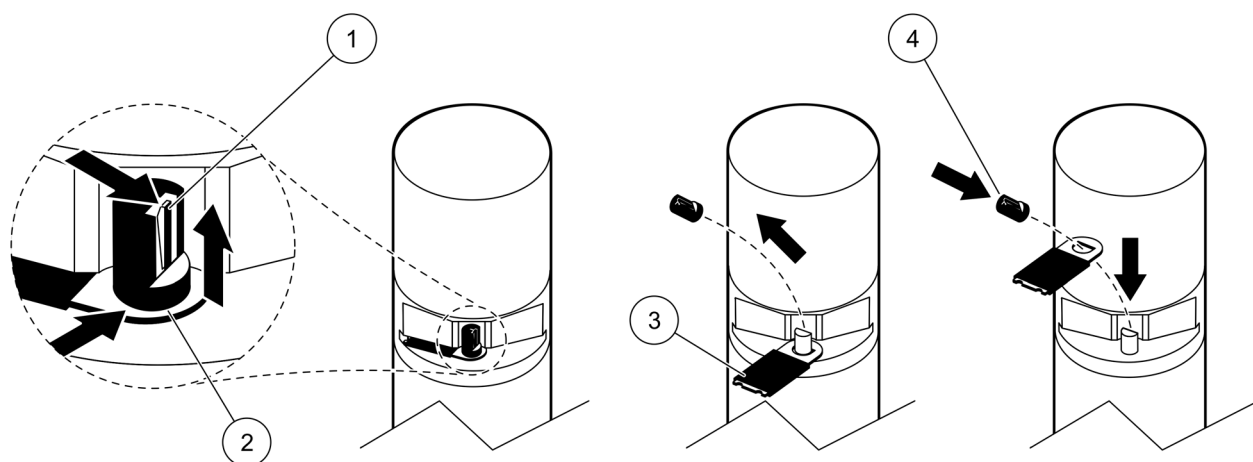

Figure 8 Changing wiper profile
Refer to Figure 8 and the following steps to change the wiper profile.
9. Lift the retaining strap (Figure 8, item 1), move the cap bottom up and remove it (Figure 8, item 2 and 3).
11. The wiper extends automatically. Exchange the wiper profile (Figure 8, item 4) and replace the cap to lock in place (Figure 8, item 5).